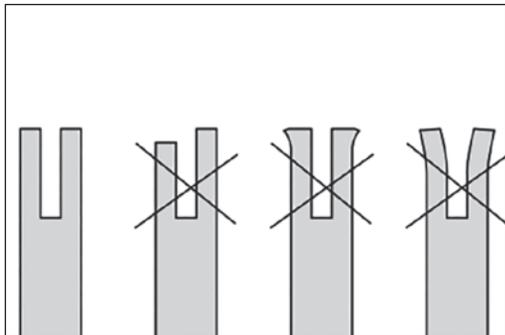

Fig.30
## 8.7 Guide Bar Maintenance (Fig.29 – Fig.30)
4. Hold a straight edge ruler against the side of the guide bar (2) and "cutter side plates".
- If there is a gap between the ruler and guide bar (2) the guide bar "rail" is normal.
- If there is no gap (ruler flush against the side of the guide bar (2)) the guide bar "rail" is worn and needs to be replaced with a new one of the same type (Fig.30).